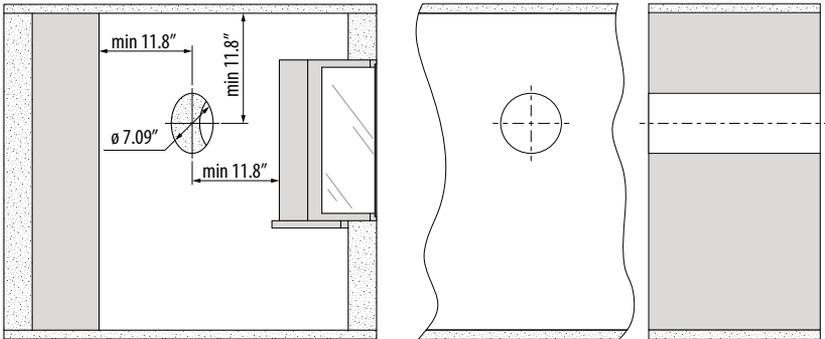

Figure 1
1. Prepare a round through hole in the outer wall. The hole size is shown (Figure 1). While preparing the hole, consider the method of laying the power cable and other required cables. Use the supplied template to mark the position of the duct opening and the cable exit point.